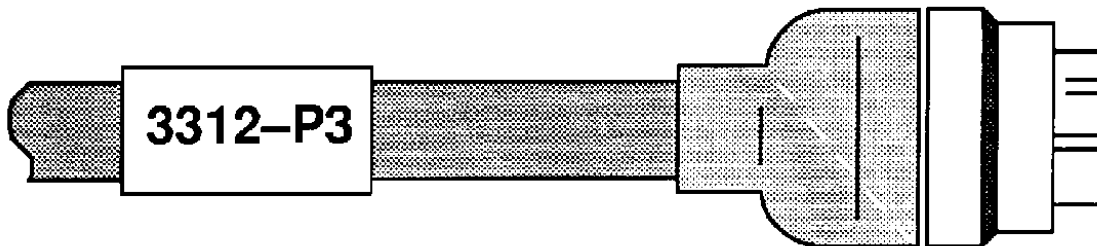

FIGURE 2 - IDENTIFICATION SLEEVE (TYPICAL)
- 5.2.1.1 Examine all areas to which DSC 347 part mark/identification sleeves or wrap around marker is to be applied and remove all burrs or sharp edges which could cause the sleeves or tape to puncture or split (see Figure 2).